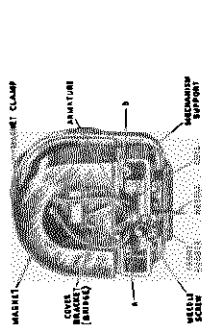

Figure 6
In order to replace a defective coil or the hardened pivot rubbers (see Figure 6), it is necessary to proceed as follows:
- (d) Remove screws A and B, Figure 6, and then remove the mechanism assembly from the pole pieces.
- (h) After remagnetizing, it is necessary to correctly center the armature. This may be done quite accurately by feeling its play after the needle is inserted. A little practice will quickly show which way an adjustment is necessary to have the armature centered properly. The adjustment is made by loosening screws A and B (Figure 6), and sliding the mechanism slightly in relation to the pole pieces.
- (4) Replacing the Damping Block
Figure 6 shows the main parts of the motor and the points that may require attention.